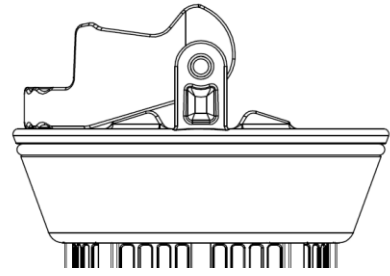

Fig. 7: Handle in "unlocked" position (side view)
- 2.1.1.2 Place basket on a level surface (basket will stand on its own), lay handle against basket ring in the “unlocked” position. (See fig. 7.)
2.5.1.5 After removing basket from body, place basket on a level surface (basket will stand on its own), lay handle against basket ring in the "unlocked" position. (See fig. 7.)